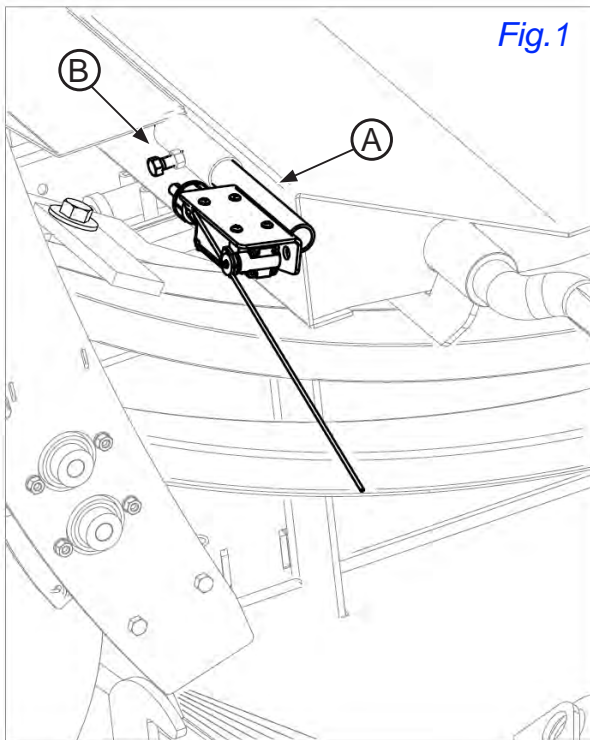

Fig. 1
1. Install film sensor bracket **(A)** by sliding into frame tube and locking with provided bolt **(B)**. See Fig. 1.